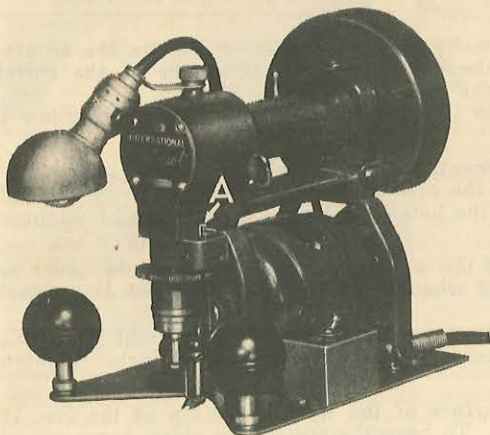

Figure 4
**A7—SWIVEL LOCK.** The K8 Cutawl only is provided with a swivel lock to facilitate the cutting of straight lines. To lock, turn the swivel until the proper notch in the knurled disc is directly under the swivel latch marked A in figure 4. Then push the swivel latch down until the end of the latch fits into the notch, locking the swivel.